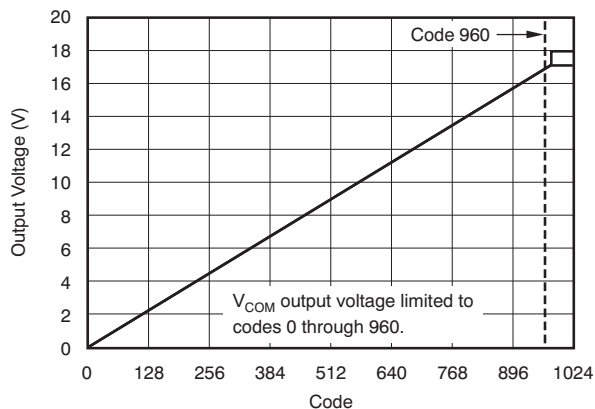
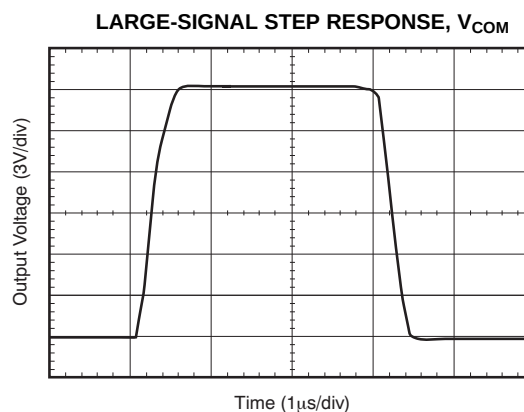

Figure 3.
Figure 12.
(2) See Figure 12, Large-Signal Step Response, V_{COM} .
(3) Observe maximum power dissipation.
(4) The V_{COM} output voltage is limited to codes 0 through 960; see Figure 3. This limitation is for V_{COM} only and does not affect DAC OUT, 1 through 8.
(5) Thermal pad attached to printed circuit board (PCB), 0lfm airflow, and 76mm $\times$ 76mm copper area.